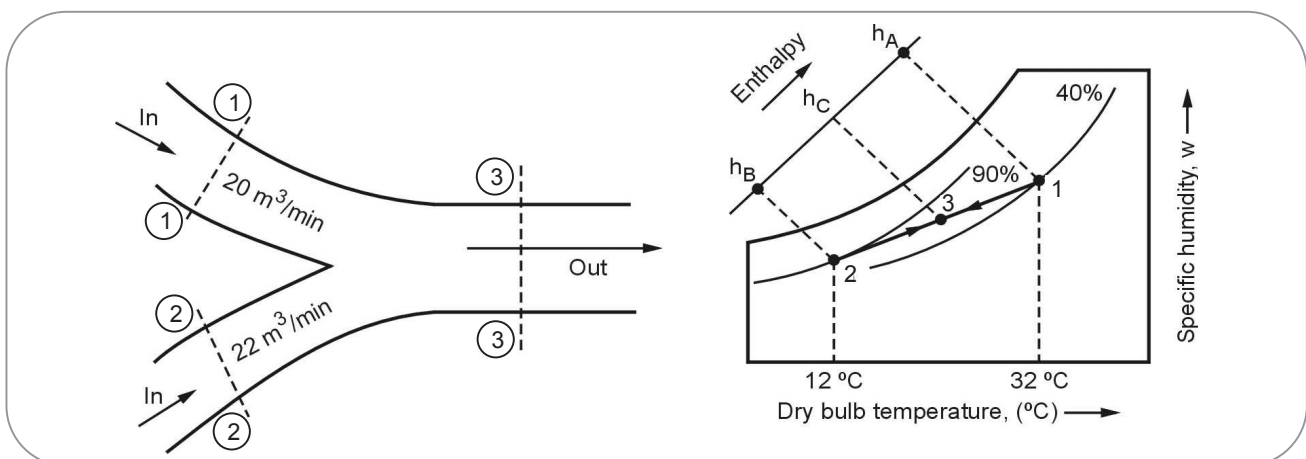

Fig. 5.88
**Sol. :** Refer Fig. 5.88.
- Similarly, locate 2nd air stream condition i.e. point '2' at the intersection of 12 °C DBT line and 90 % RH lines as shown in Fig. 5.88 on psychrometric chart. Join line 1-2.